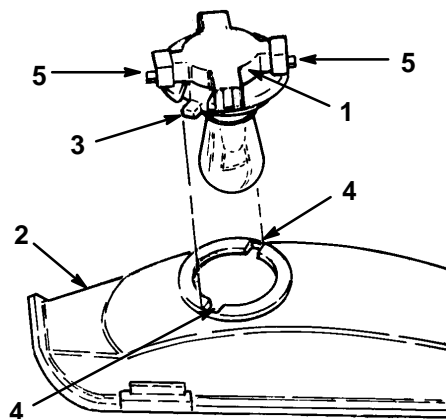

Figure 50
3. Rotate the bulb holder 1/4 turn counterclockwise and remove it from the reflector (Fig. 50).
2. The bulb holder has two tabs (Fig. 50). Align the tabs with the slots in the reflector, insert the bulb holder into the reflector and rotate it 1/4 turn clockwise until it stops.